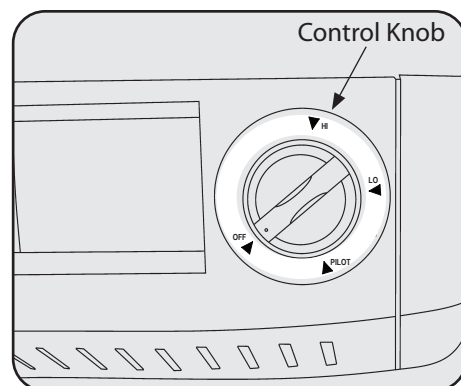

Figure 15
3. Push in gas control knob and slightly turn clockwise ↻ to the OFF position See Figure 15.
4. Wait five (5) minutes to clear out any gas. Then smell for gas, including near the floor. If you smell gas, **STOP!** Follow “B” in the safety information above. If you do not smell gas, go to the next step.
5. Push in gas control knob slightly and turn counterclockwise ↻ to PILOT and depress for five (5) seconds.
7. Keep control knob depressed in for ten (10) seconds after lighting pilot. If pilot goes out, repeat steps 4, 5, 6 and 7.